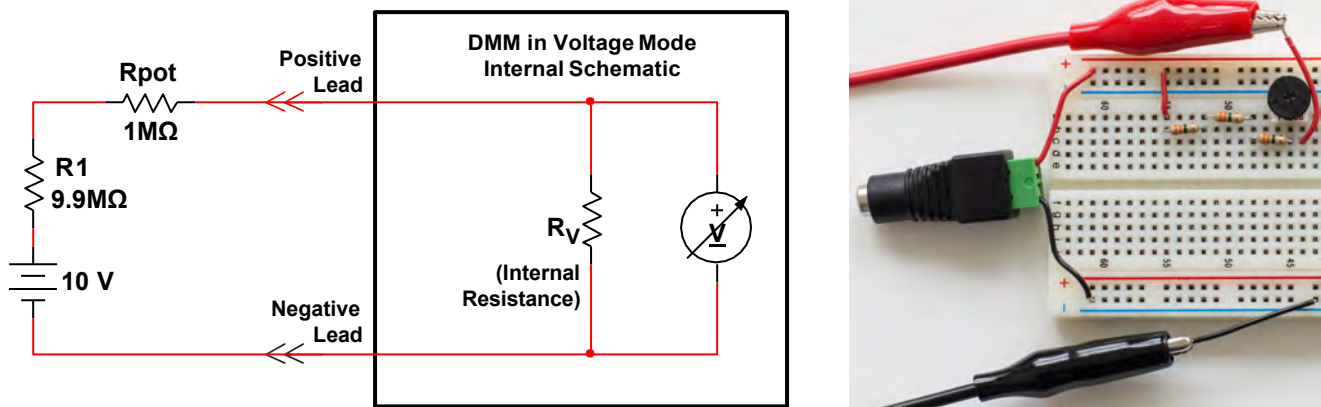

Figure 1.1 – Experimental Setup
1. **Set up** the circuit in **Figure 1.1**. For  $R_1$ , use three  $3.3M\Omega$  resistors in series.